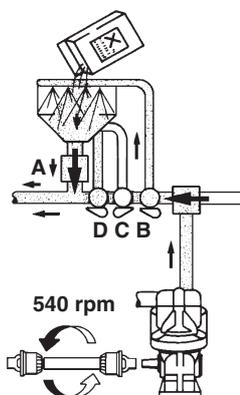

Fig 23
- 4 Open the bottom valve of the filler (A Fig 23 & A Fig 17) and open the filler lid.
- 5 Engage the hopper flushing device and hopper swirl device by opening their respective valves (B Fig 23 & B Fig 17) and (D Fig 23 & D Fig 17).
- 7 Close all flush and swirl valves (B, C & D Fig 23 & B, C & D Fig 17) once the hopper is flushed.
- 8 Close the bottom valve of the filler (A Fig 23 & A Fig 17) and the filler lid again.